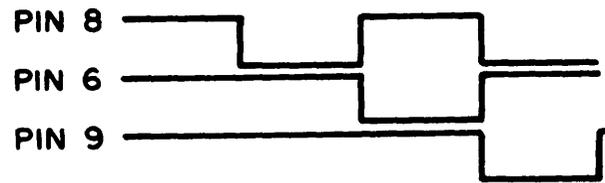

Figure 4-3. Pins 6, 8 and 9 Waveforms
c. Pins 8, 6, 9 should produce the complement (refer to fig. 4-3).